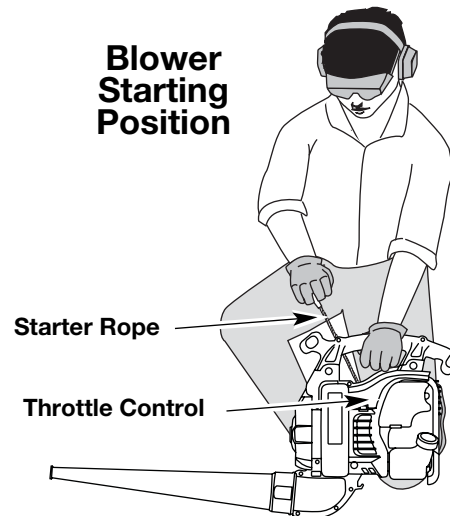
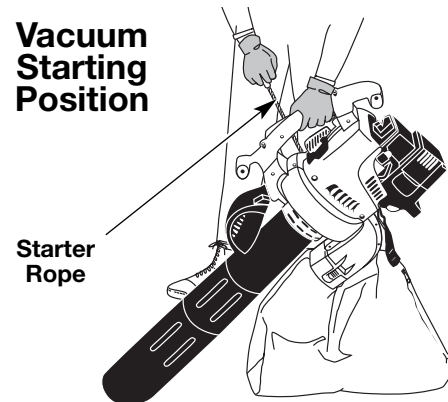

Fig. 15
Fig. 16
WARNING: Avoid accidental starting. Make sure you are in the starting position when pulling the starter rope (Fig. 15 or 16). To avoid serious injury, the operator and unit must be in a stable position while starting.
5. Crouch in the blower starting position (Fig. 15) or stand in the vacuum starting position (Fig. 16). Move the throttle control to the fast position (🐇) (Fig. 18). Pull the starter rope out with a smooth and steady motion 5 times.